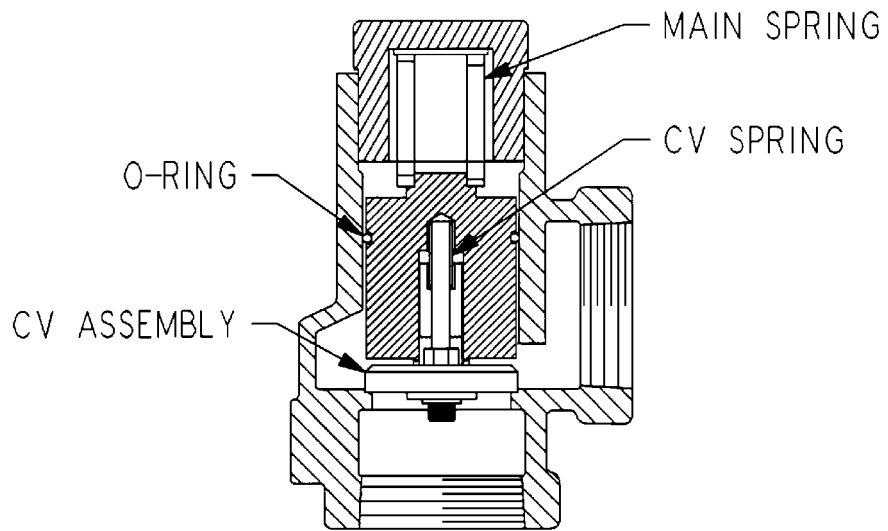

Figure 9-1 – MINIMUM DISCHARGE PRESSURE/CHECK VALVE
3. Carefully and gradually unscrew the valve cap from the body . this will also release tension from working spring within valve body. After cap removal, all internal parts can be retrieved . note their relative positions during disassembly to help the re-assembly process. See Figure 9-1, page 66